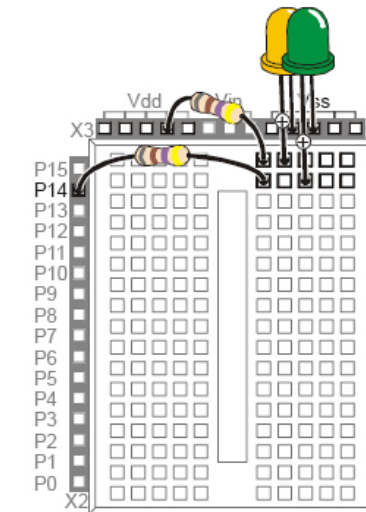

Fig 2.33: 2x LEDs test circuit
- Disconnect the power from your BOE. Construct the second LED circuit as shown in figure 2.33. The resistor value is also 470 Ω .